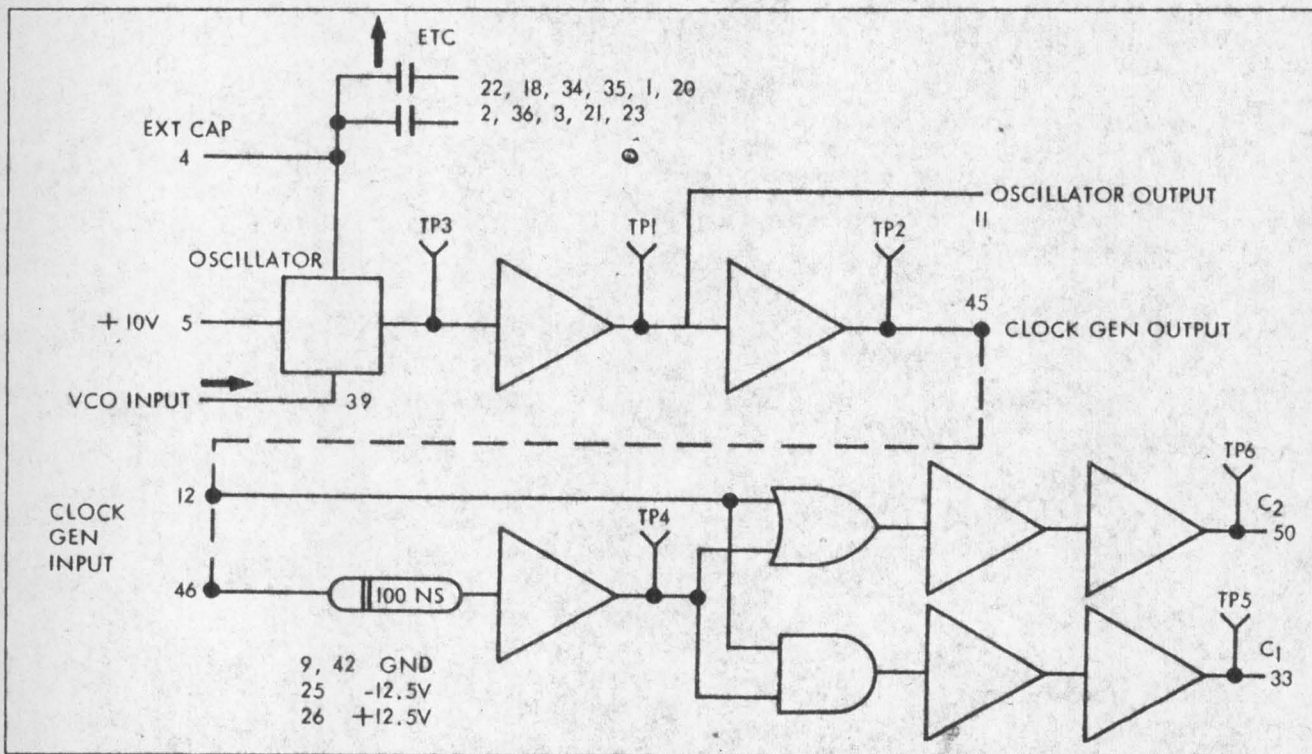

Figure 2. Clock Oscillator Model 600140, Logic Diagram
4. CIRCUIT DESCRIPTION (See Figures 2 and 3).